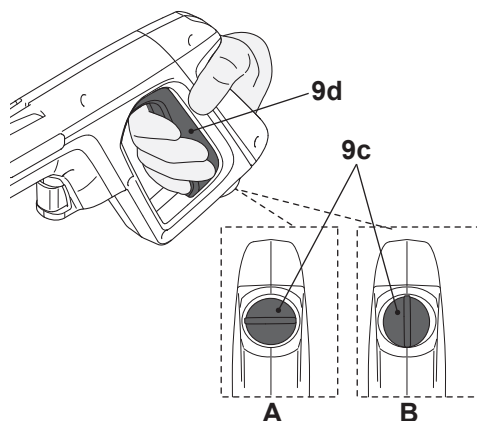

Fig. 20
1. When the trigger lock (9c) is in locked position, the spray gun trigger (9d) is disabled (Fig. 20, A).
1. When the trigger lock (9c) is in unlocked position, the spray gun trigger (9d) is enabled and ready for use (Fig. 20, B).